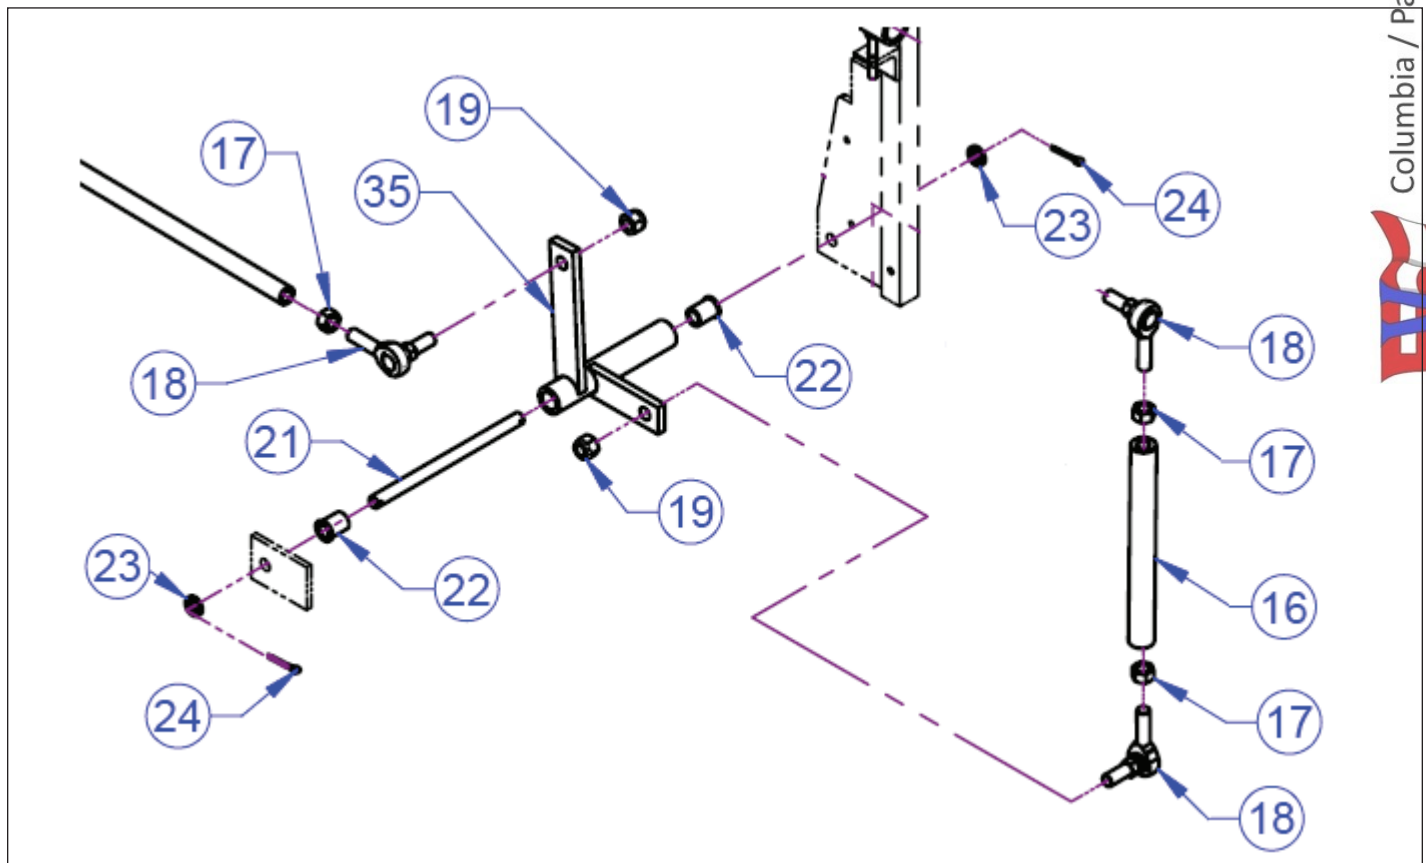

Figure 6-9. Steering Rods and Bell Crank
4. Remove nut (19) and long steering rod tie rod end (18) from steering bell crank (35). See Figure 6-9.
5. Remove nut (19) and short steering rod (16) tie rod end (18) from steering bell crank (35).
6. Remove two cotter pins (24) and washers (23). Slide pivot shaft (21) to the left to remove steering bell crank (35) and bushings (22). See Figure 6-9.
See Figure 6-9.